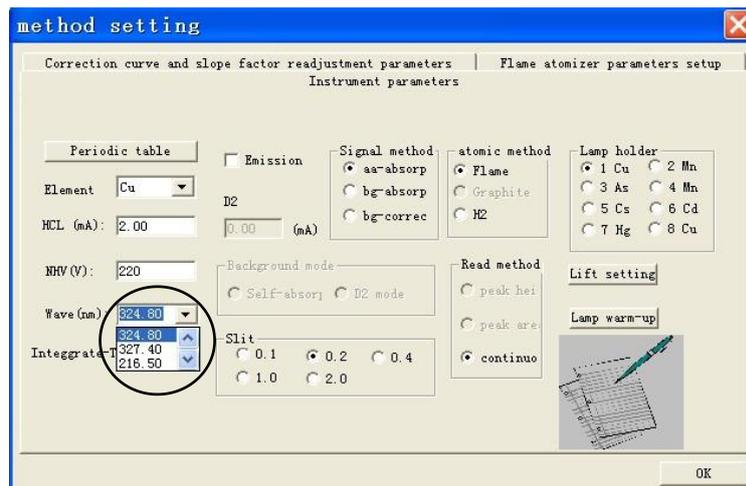

Figure 4-15
- Wavelength selection: The default wavelength is the main sensitive line of the selected element. If another sensitive line is necessary, move the cursor to the "Wavelength" pull-down list and select a wavelength by clicking on it, as shown in Figure 4-15.